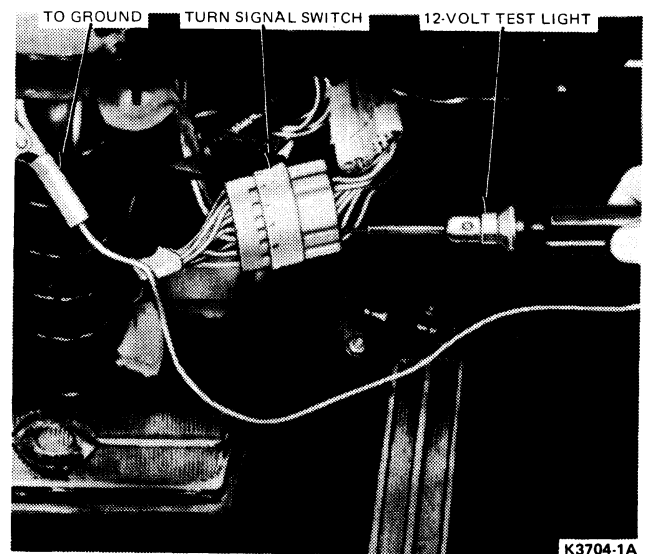

FIG. 4 Turn Signal Switch Power Out Test
3. Connect 12-volt test light to a good ground (Fig. 4).
4. Contact probe of test light to the wire connection at the switch (Fig. 4) to check for continuity to the following turn signal lights: